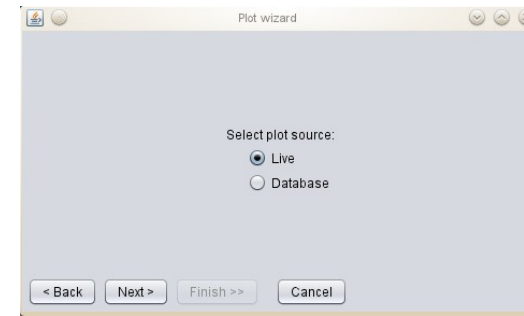

Figure 18: Selecting source
2. Select the source; live or from the database (see figure 18). If live is selected, data will be plotted as new values for selected parameters are generated by the system. If database is selected, the plot will be generated based on stored data for a given satellite and orbit. Click Next when done, or Back to change earlier selection.